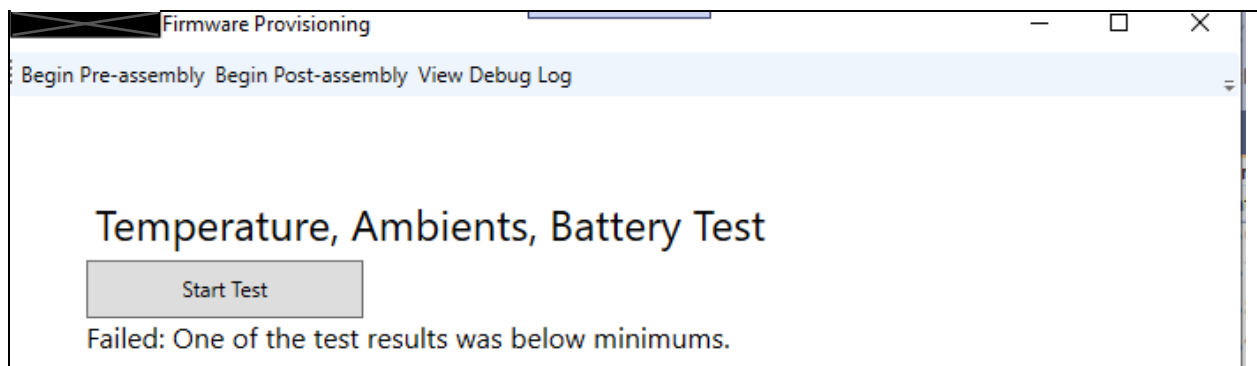

Fig. 6
2. Results display below the button. (Fig. 6)